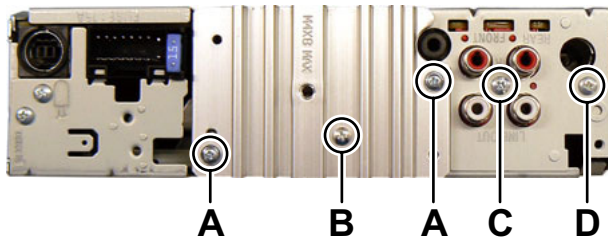

Fig.1
3.1.1 Removing the Bottom chassis (See Fig.1)